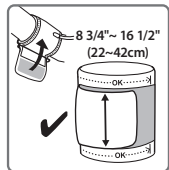

Fig. 5
6. This cuff is ready for use if the arrow heads fall within the range on the other side of the cuff when the cuff is tightened around your arm (Fig. 5).